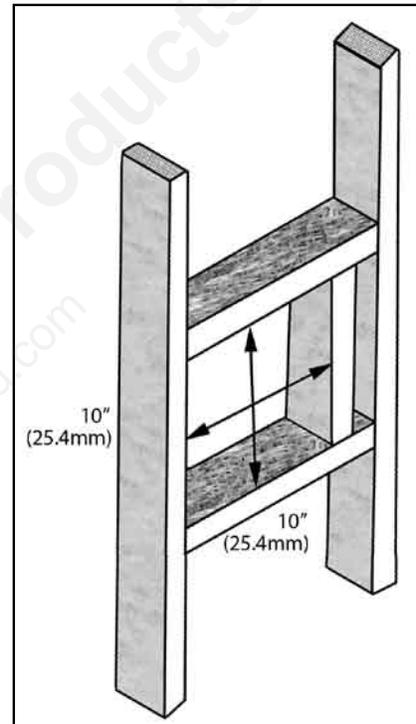

Figure 7: Wall Framing for 10" (25.4 cm) x 10" (25.4 cm) Hole for Horizontal Installation.
(2) Horizontal runs of vent pipe must be supported every three feet. Wall straps are available for this purpose, also when running horizontal pipe minimum clearances to combustibles must be maintained; **2" (5.1 cm) at top, 1½" (3.8 cm) at sides, 1½" (3.8 cm) at bottom.**
STEP 3. With the pipe attached to the stove into the correct location, mark the wall for a 10" (25.4 cm) x 10" (25.4 cm) square hole. The center of the square hole should match the centerline of the horizontal pipe. Cut and frame the 10" (25.4 cm) x 10" (25.4 cm) hole in the exterior wall where the vent will be terminated. Refer to Figure 7. If the wall being penetrated is constructed of non-combustible material i.e. masonry or concrete, a 7" (17.8cm) hole is acceptable.
the wall. Cut the hole out on both the interior and exterior wall surfaces. Frame hole as shown in Figure 7. Install the wall thimble and secure this thimble on both the inner and outer wall surfaces.